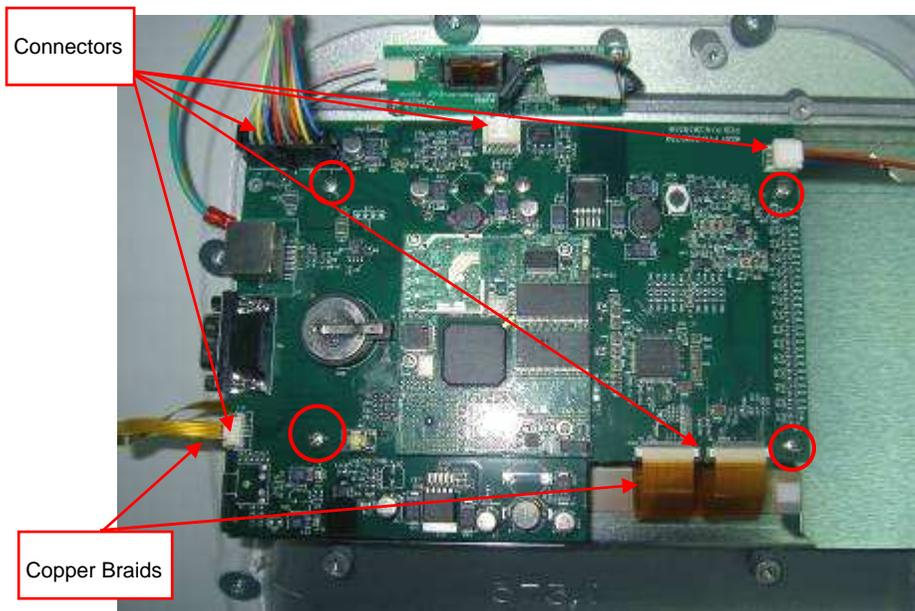
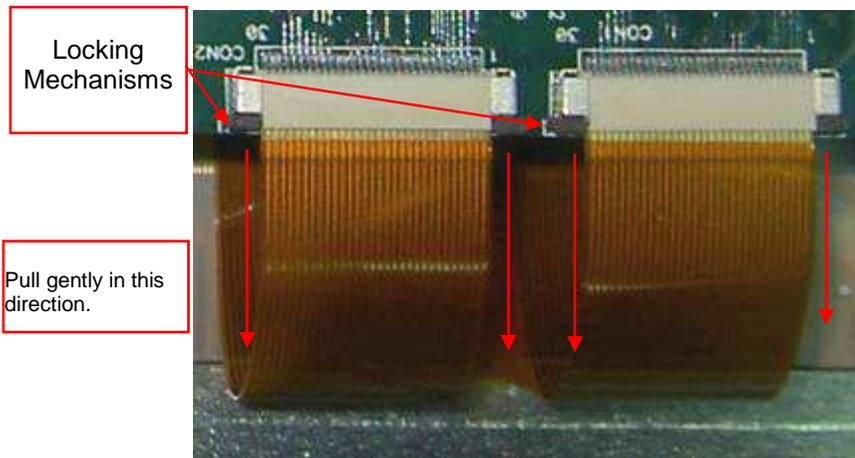

Figure 24: Display Module
Figure 25: Copper Braid Removal
4. Release all connectors from the Pheripherals to the Display PCB and remove all all screws (Figure 24).
The copper braids (Figure 24) are very delicate and need to be handled with care. First release the locking mechanism with a flat headed screw driver and then gently remove the braid (Figure 25).